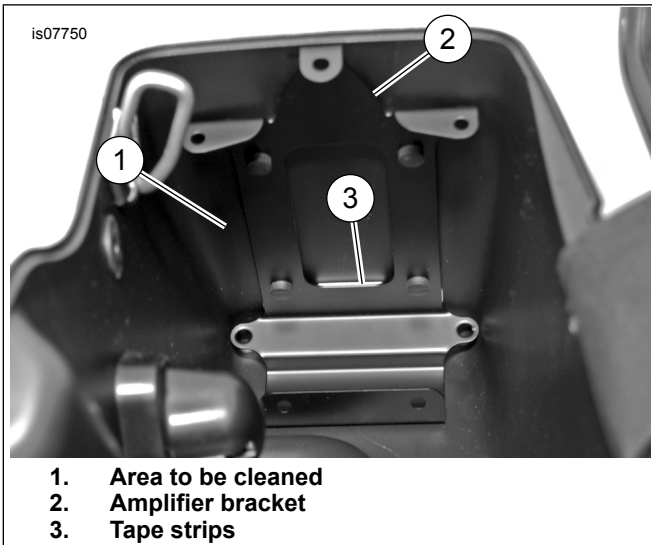

Figure 6. Amplifier Bracket Installation
10. See Figure 6. Clean the inside rear and bottom surfaces of the saddlebag with a 50-50 mixture of isopropyl alcohol and distilled water.